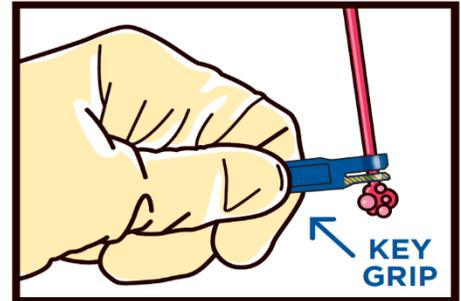

Figure 4
- This side of the forceps, identified with yellow striping, is to be placed on the side of and close to the nerve segment to be sacrificed and the larger diameter aperture of the nerve forceps, unmarked, is to be placed on the side of the nerve to be preserved (Figure 4).
- The recommended grip to use on the forceps is the key grip which allows the user to firmly grasp the nerve (Figure 4).